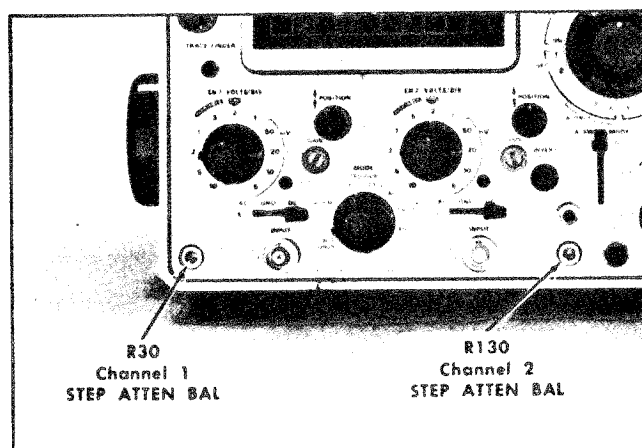

Fig. 6-14. Location of Channel 1 and 2 STEP ATTEN BAL adjustments (front panel).
d. ADJUST-Channel 1 STEP ATTEN BAL adjustment, R30 (see Fig. 6-14), for no trace shift as the CH 1 VOLTS/DIV switch is changed from 20 mV to 5 mV.
h. ADJUST-Channel 2 STEP ATTEN BAL adjustment, R130 (see Fig. 6-14), for no trace shift as the CH 2 VOLTS/DIV switch is changed from 20 mV to 5 mV.